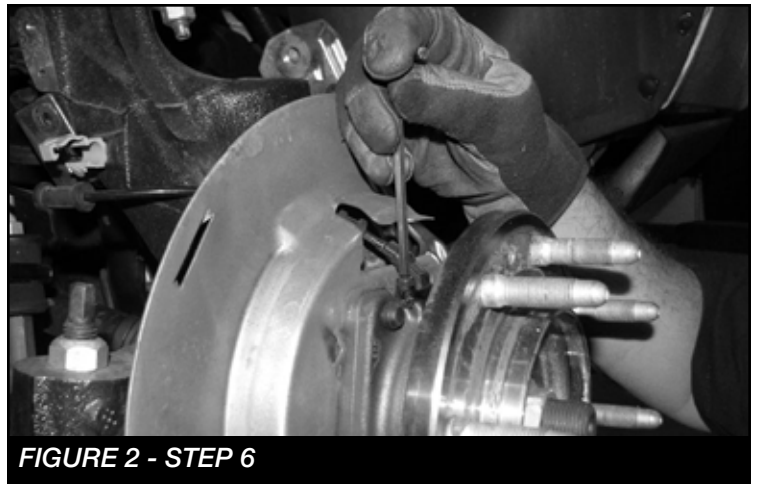

FIGURE 2 - STEP 6
6. Remove the brake hose bracket from the top of the steering knuckle. Remove the caliper from the rotor and place above the upper control arm during this portion of the installation. Remove brake rotor from the steering knuckle. Unbolt the wheel speed sensor connection from the hub and control arm. **SEE FIGURE 2**